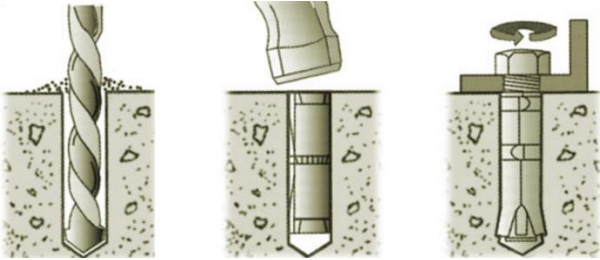
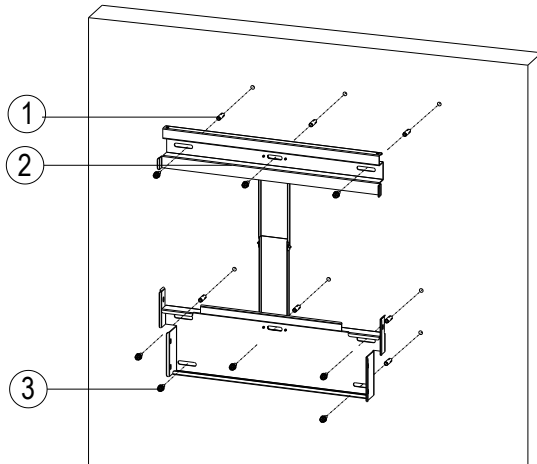

Figure 3-7 Drill holes, set Anchors, and tighten Assembly Bolts
Figure 3-8 Secure the Mounting Bracket
- (b) Concrete Wall Mount: Drill holes at the marked positions with a 0.4in. (10mm) masonry bit and insert **M8 Expansion Anchors** into the holes (expansion anchors not provided); Fasten the **Mounting Bracket** with the **M8x25 Assembling Bolts** supplied with the Accessory Kit. Figure 3-7 and Figure 3-8. Tools Required: Electric drill (Φ 10mm/0.4in. masonry bit), No. 13 wrench